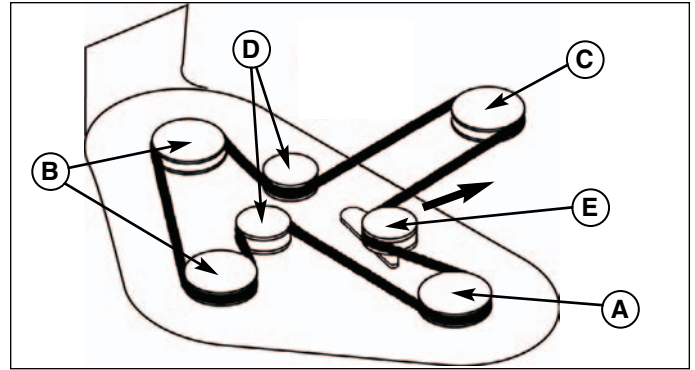

Figure 23. Mower Belt Routing - 44" Decks
4. Pull back firmly on the belt tensioning idler (E, Figure 23) in the direction indicated, and remove the belt from the left arbor pulley (A).
6. Reversing steps 4 - 5, install the new belt, following the routing in Figure 23. Be sure to replace the belt guards.